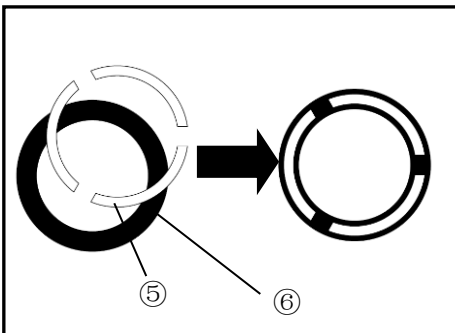

Fig.35
1. Keep the lettering face of phase contrast slider forward, then insert it into the corresponding hole of condenser from left to right. After inserting, tighten the screws ④ on the left and right sides
- ★ The screws ④ on the left and right sides have positioning effect to prevent the phase contrast slider from being pulled out.
7.2.2 Centering Diaphragm (Fig.35)